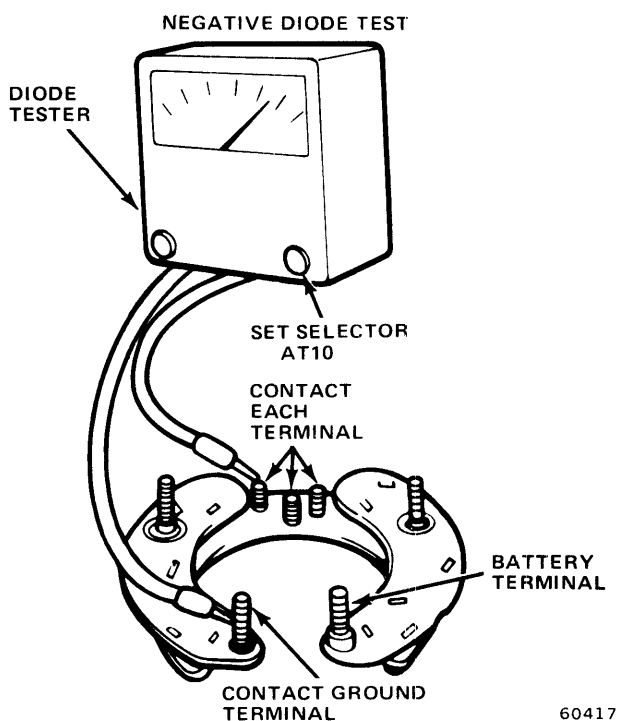

Fig. 3-14 Testing Negative Diodes
- (1) Remove rectifier assembly from rear housing.
- (2) Set ohmmeter at 10 scale and calibrate.
- (3) Test negative diodes by touching one ohmmeter lead to ground terminal and other lead to each stator lead terminals (fig. 3-14).